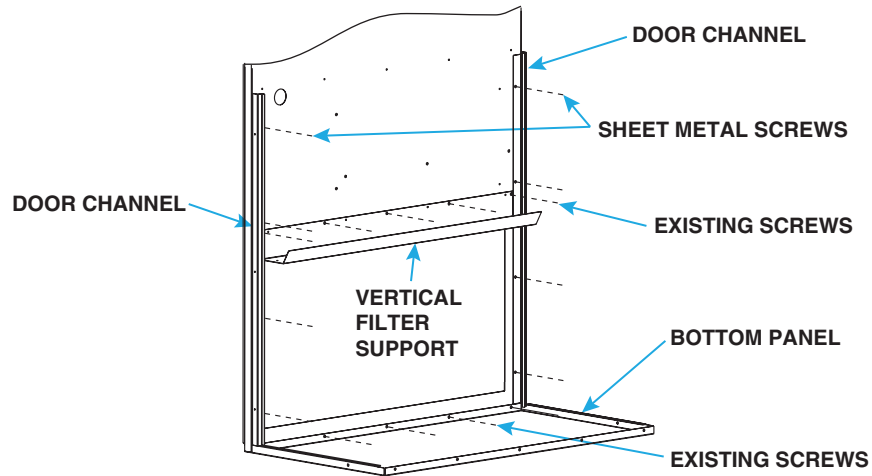

Figure 12. Install Bottom Panel and Vertical Filter Support
1. Install two door channels, vertical filter support, and bottom panel as shown in **Figure 12**: